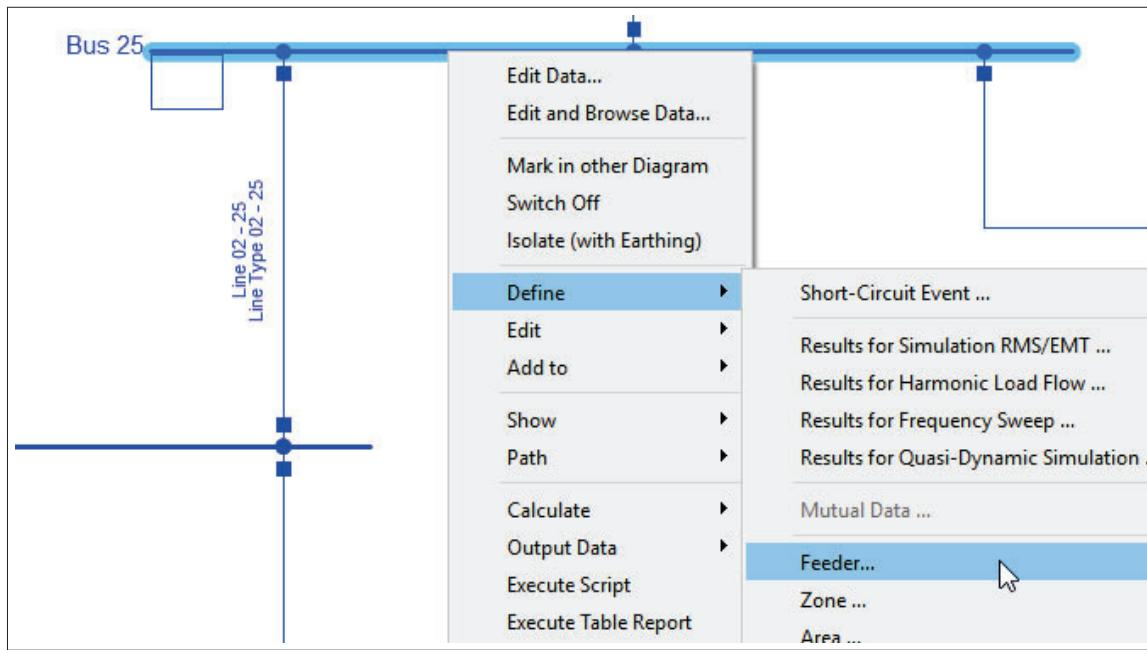

Figure 15.6.1: Definition of Feeders from a terminal by right-clicking the terminal
2. Choose the option *Define → Feeder...* from the context sensitive menu that appears. This step is illustrated in Figure 15.6.1.